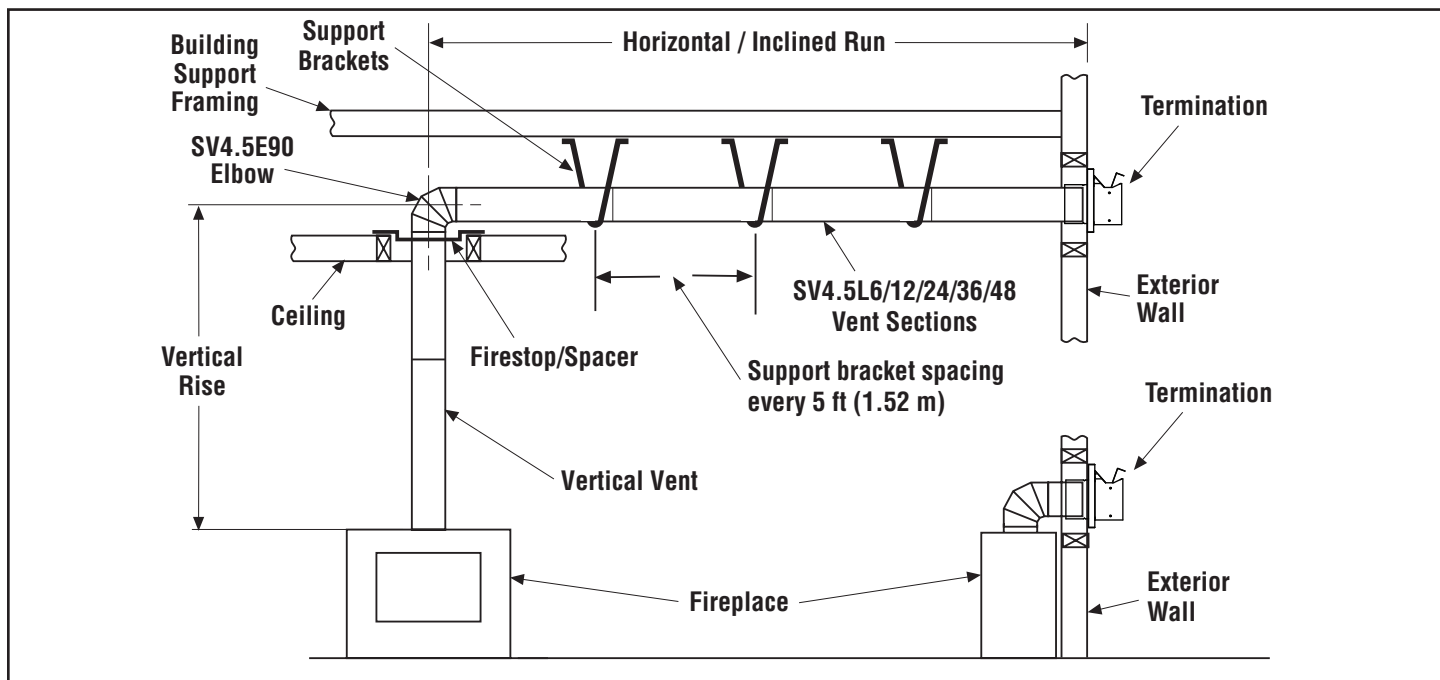

Figure 8 - Typical Horizontal Vent Installation
- 2. Support fireplace vent outlet with field provided support straps (Plumber's tape)**—Attach the straps to the vent pipe and secure to the framing members with nails or screws (*Figure 8*).
1. **Continue installation of horizontal/inclined sections**—Continue with the installation of the straight vent sections in horizontal/inclined run. Install support straps every 5 ft. (1.52 m) along horizontal/inclined vent runs using conventional plumber's tape (*Figure 8, Page 14*). Maintain the horizontal/inclined run in a straight (no dips), slightly elevated plane. The recommended incline is approximately 1/4" per 1 ft (20 mm per 1 m) horizontal, in a direction away from the fireplace. Smaller rise per foot run ratios are acceptable all the way to at or near level. Use a carpenter's level to measure from a constant surface and adjust the support straps as necessary. Maintain the required clearances to combustibles (*Page 9*).